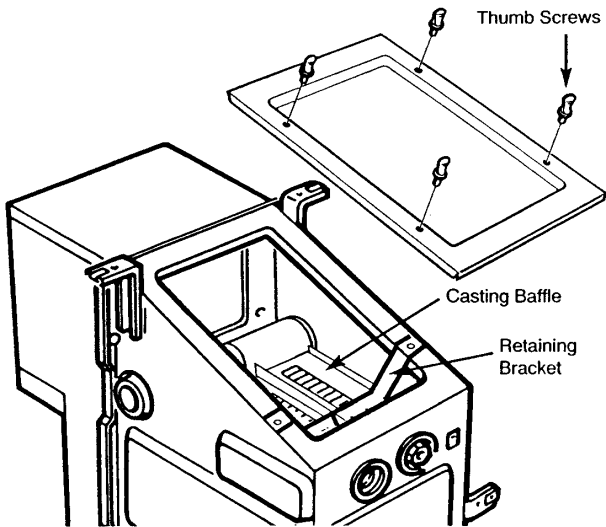

fig 10 - Baffle Securing Screws
- 8) Remove the four thumb screws securing the top inspection panel. Lift off or slide forward under control fascia to remove. (Fig 10).